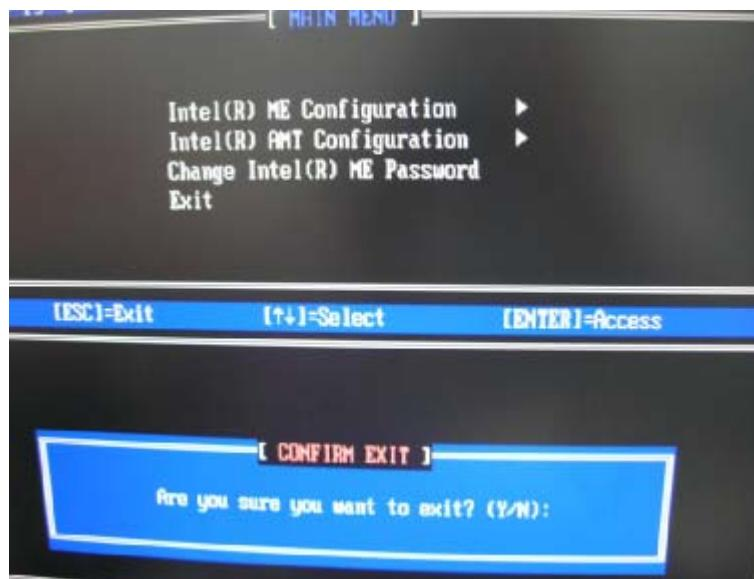

Figure C-10: Exit
Step 12: To exit the Intel® MEBx, return to the main menu and select Exit. (**Figure C-10**)